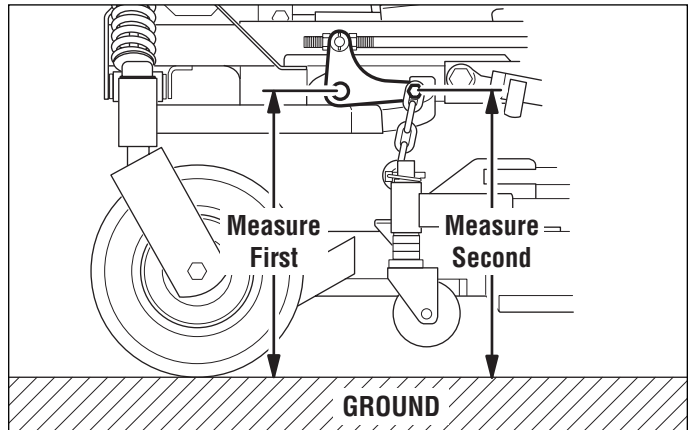

Figure 13. Measure Front Lift Pivot
6. Refer to Figure 13. Measure the distance from the front lift pivot to the ground and from the front chain anchor bolt to the ground. If the measurements are equal, no further adjustment is required. If the measurements are NOT equal (greater than 1/8" (3,17mm) difference), adjustment is required, continue with Step 7.